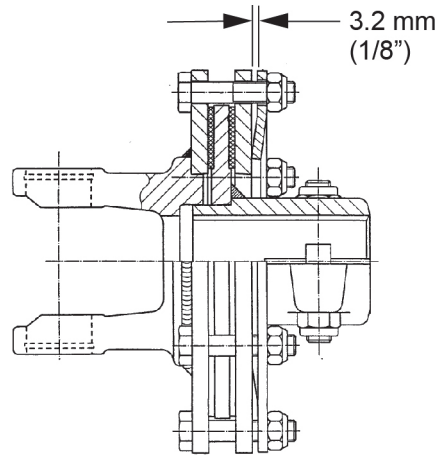

Figure 14. Slip Clutch Assembly
3. Mark outer plates of slip-disc clutch as shown in Figure 14.
3. Loosen six 10 mm cap screws (6) to remove all tension from Belleville spring plate (5).
4. Hold clutch hub (3) solid and turn shaft to make sure clutch slips.
5. If clutch does not slip freely, disassemble and clean the thrust plate faces (4), flange yoke (1), and clutch hub (3).
6. Reassemble clutch. Tighten Belleville spring (5) until it is against the thrust plate (4) of the clutch, and then back off each of the six nuts by two full revolutions. The gap between Belleville spring and thrust plate should be 3.2 mm (1/8") as shown in Figure 14.
7. If a clutch continues to slip when the spring is compressed to 3.2 mm (1/8"), check friction discs (2) for excessive wear. Discs are 3.2 mm (1/8") when new. Replace discs after 1.6 mm (1/16") wear. Minimum disc thickness is 1.6 mm (1/16").